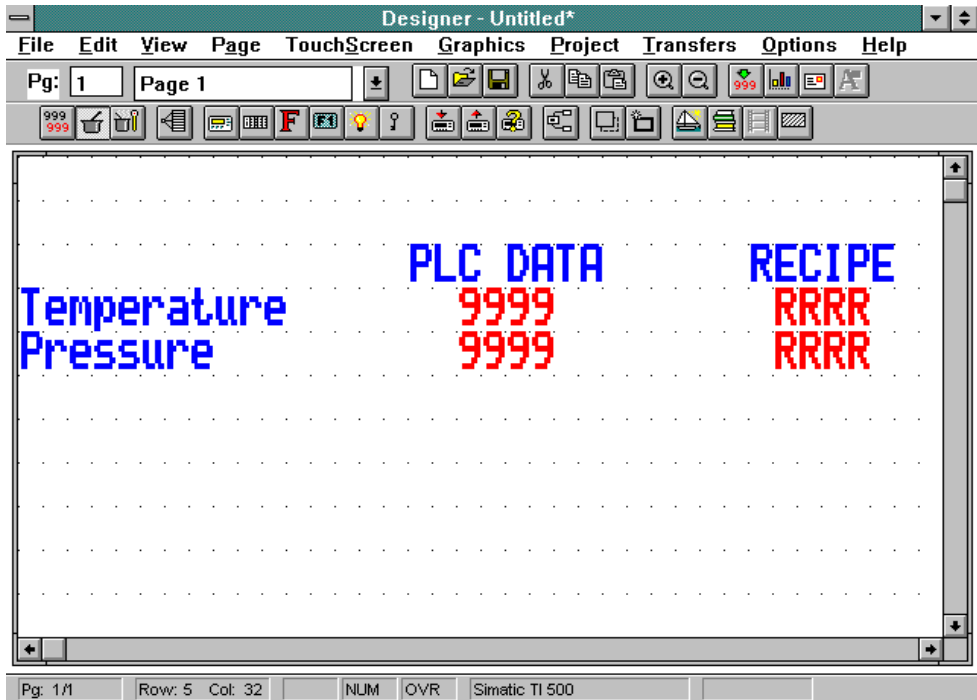

Figure 12-2
6. Define two Recipe data items with the same addresses as given to the numeric fields that were created in step 4. The two Recipe data fields will be shown on the Designer page with the placeholder 'R' instead of the '9' used for numeric fields (see Figure 12-2)